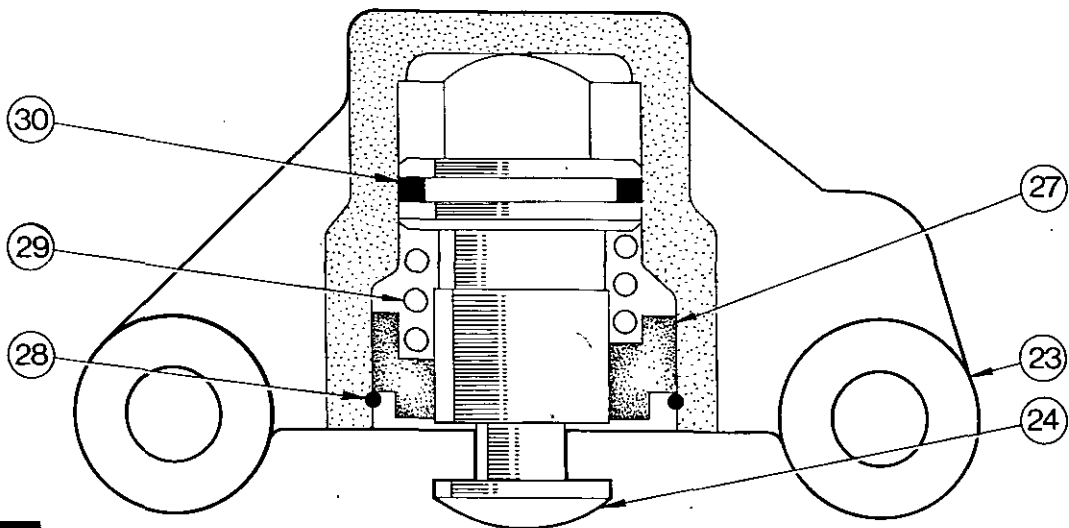

FIG. 17
5. Fig.17. To service the brake assembly, remove the snap ring (28), guide (26), spring (29) and piston (27). Remove the 'O' ring (30) from the piston.
1. Fig.17. To reassemble the brake assembly, fit a new 'O' ring (30) on the piston (27) then refit the piston, spring (29), and guide (26) in the brake housing (23) and secure with a new snap ring (28).